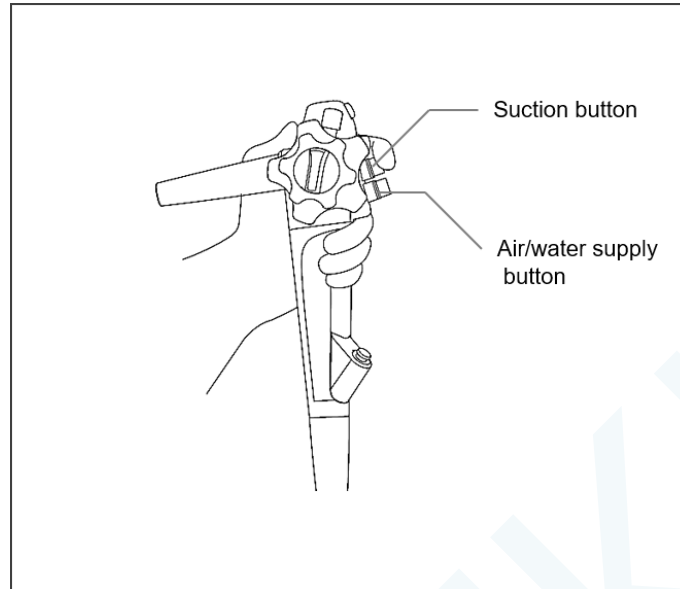

Figure 4.3
1. Block the hole in the air/water supply button and send air through the air/water nozzle at the distal tip (see Figure 4.3).
2. Press the air/water supply button to send water to the objective lens (Figure 4.3).
Press the suction button to suck excess fluid or other debris that obstructs the view of the endoscope (Figure 4.3).